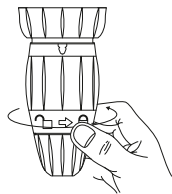

Fig.12
4. Tighten the lock ring (Fig.12).